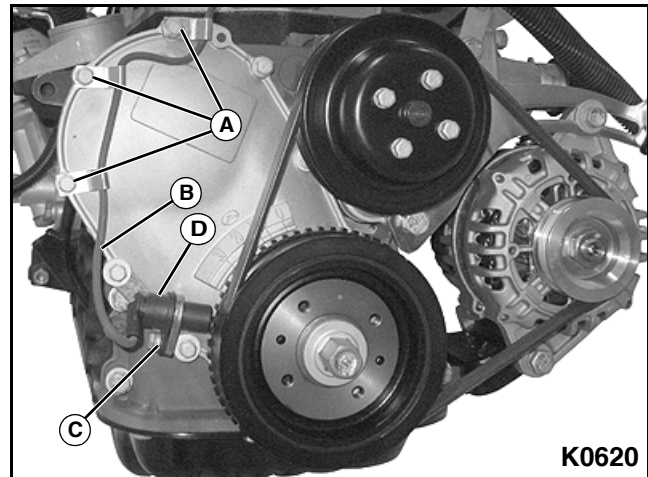

Figure 3-81
1. Remove three electrical harness clamp bolts, flat washers, and lock washers (A) from crankshaft position sensor wiring harness (B). **See Figure 3-81.**
2. Remove mounting bolt, flat washer, and lock washer (C) from crankshaft position sensor (D) and remove sensor.